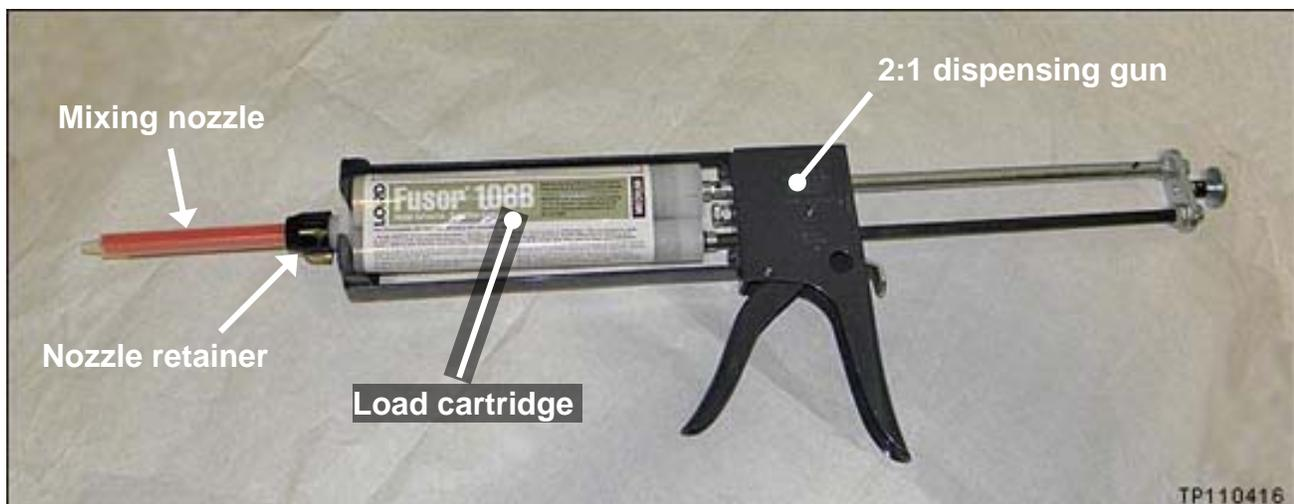

Figure RB21
25. Prepare for application of LORD Fusor[®] 108B structural adhesive (see Figure RB21 and RB22).
- Make sure the nozzle retainer is installed (see Figure RB21).